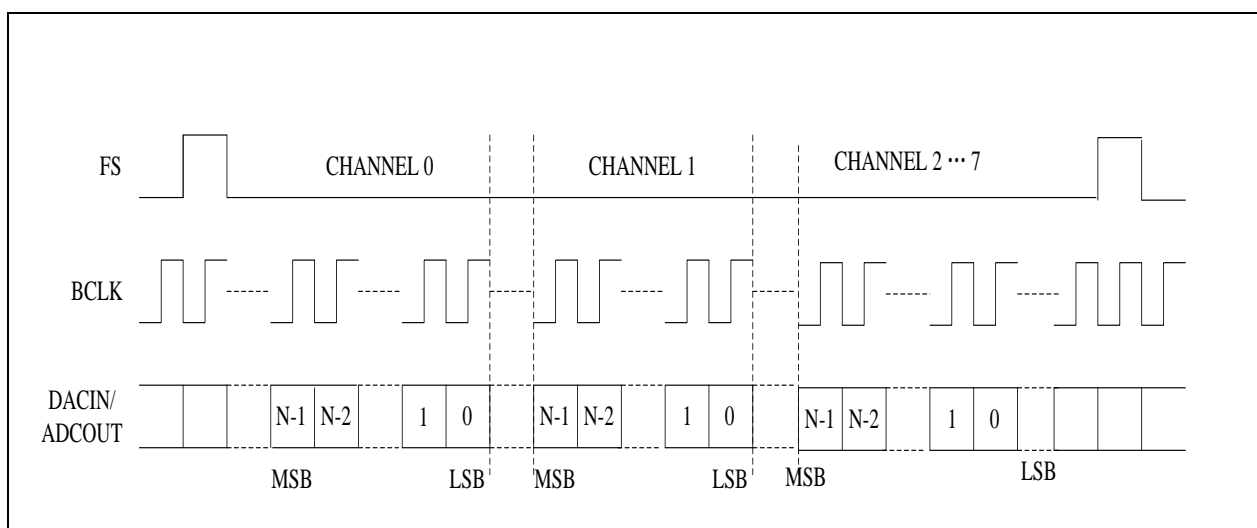

Figure 33 PCM Time Slot Audio Data
Normally, the DAC and ADC data are clocked immediately after the Frame Sync (FS); however, in PCM Time Slot Mode, the audio data can be delayed by setting **LEFT TIME SLOT TSLOT L0 REG0XF9[9:0]** and **RIGHT TIME SLOT TSLOT R0 REG0X10[9:0]** for the left and right channels, respectively. **I2S PCM CTRL2 PCM TS_EN0 REG0XE[10]** needs to be set to 1. These delays can be seen before the MSB in **Figure 33**.